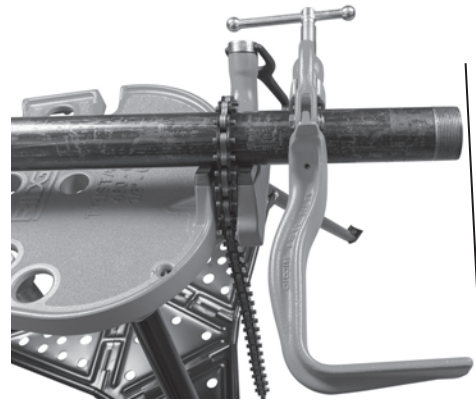

Figure 5 – Support Arm Aligned with End of Pipe
2. Position the support arm on pipe so end of support arm aligns with end of pipe and 700 Power Drive will be slightly above horizontal (Figure 5 and 6). This properly places the support arm for threading and prevents threading oil from running down power drive.